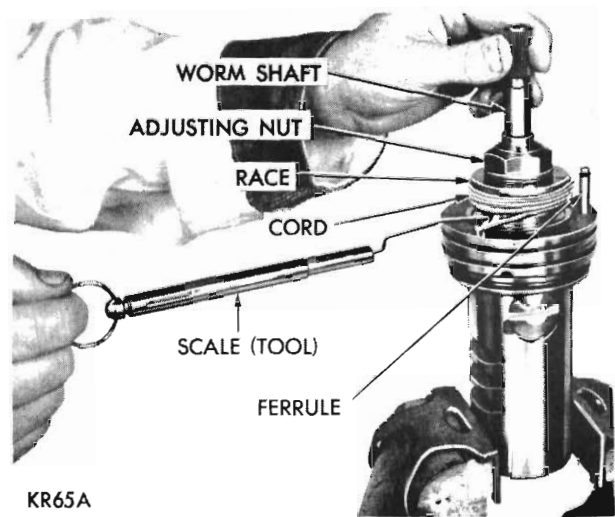

Fig. 19 – Checking centre bearing pre-load
(34) Hold the wormshaft in position with nut tool E19C25K, then tighten the adjusting nut to 50 lbs./ft. to pre-stretch the wormshaft threads.
(35) Loosen the adjusting nut. Place several rounds of cord around the centre bearing race (Fig. 19). Make a loop in the end of the cord and hook the loop of a distributor breaker arm spring tension scale in the cord loop. Pulling the cord with the spring tension scale will cause the bearing to rotate.